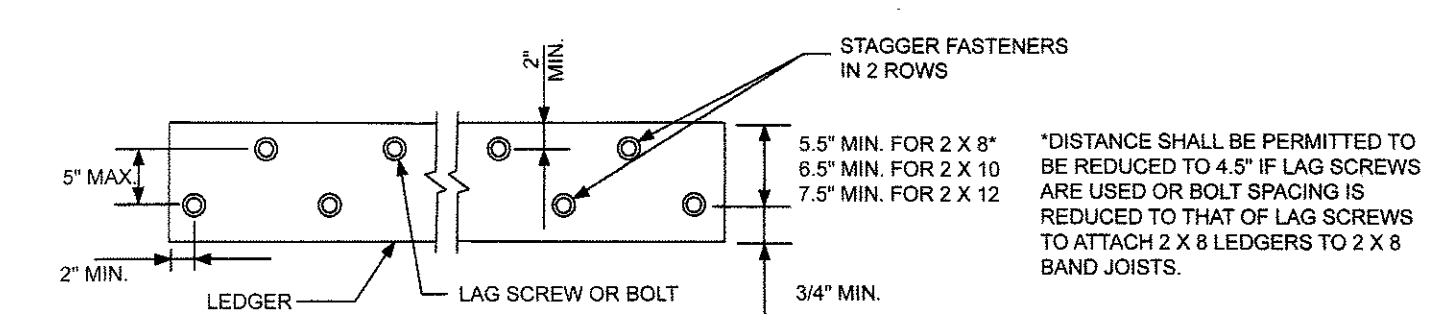

FIGURE R507.2.1(1)
d. The minimum distance from bottom row of lag screws or bolts to the top edge of the ledger shall be in accordance with Figure R507.2.1(1).